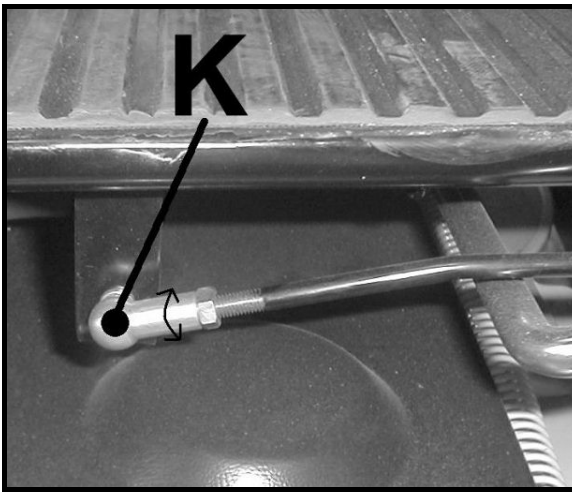

Fig.15d
**Adjustment of the neutral position of the pump lever – Fig. 15d**